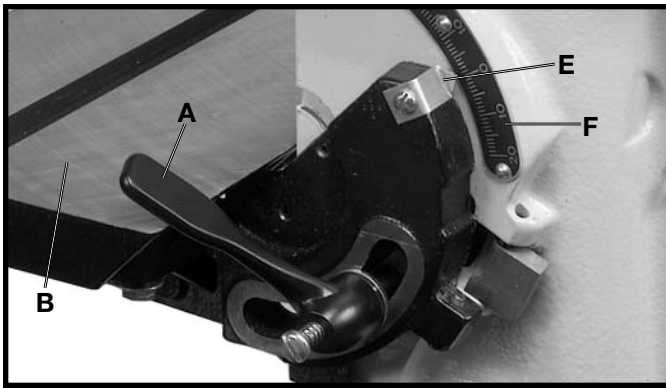
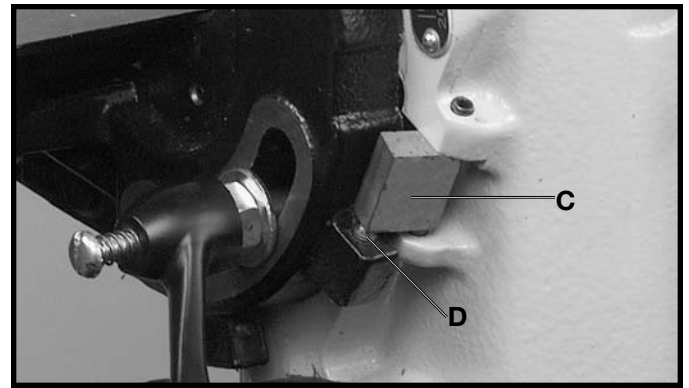
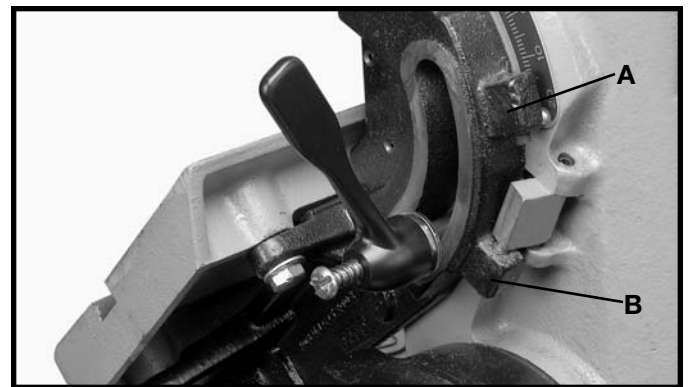

Fig. 15
Fig. 16
Fig. 17
To tilt the table, loosen the table tilting handle (A) Fig. 15, move the table to the desired angle, and tighten the table tilting handle. The table tilting handle can be repositioned by pulling out the handle and repositioning it on the hex nut located underneath the handle. Positive table stops are provided at 90° (A) Fig. 17, and 45° (B) Fig. 17. To adjust the stops, proceed as follows:
1. Loosen the table locking handle (A) Fig. 15, and lift the table up to approximately 10 degrees.
2. Flip out stop bracket (C) Fig. 16, and lower the table until the adjustable screw (D) contacts stop bracket (C).
4. Turn the adjusting screw (D) Fig. 16 until the table is at 90° to the platen and adjust the pointer (E) Fig. 15, to the 0° mark on the angle-of-tilt scale (F) Fig. 15.
5. The same procedure is followed when adjusting the table to stop at the 45° position as shown in Fig. 17.